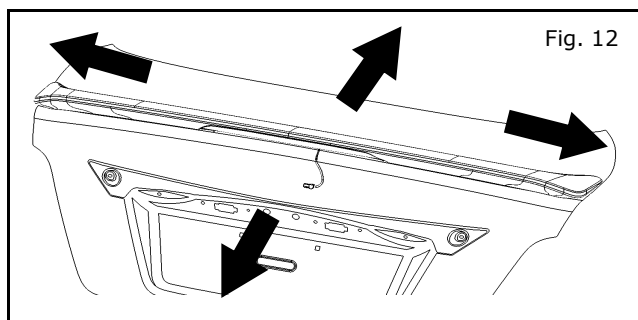

Fig. 12
- j) Using micro fiber cloth apply 15lbs of pressure on the spoiler to adhere the spoiler to the trunk lid. Pressure must be applied around entire perimeter of the spoiler. (Fig. 12)